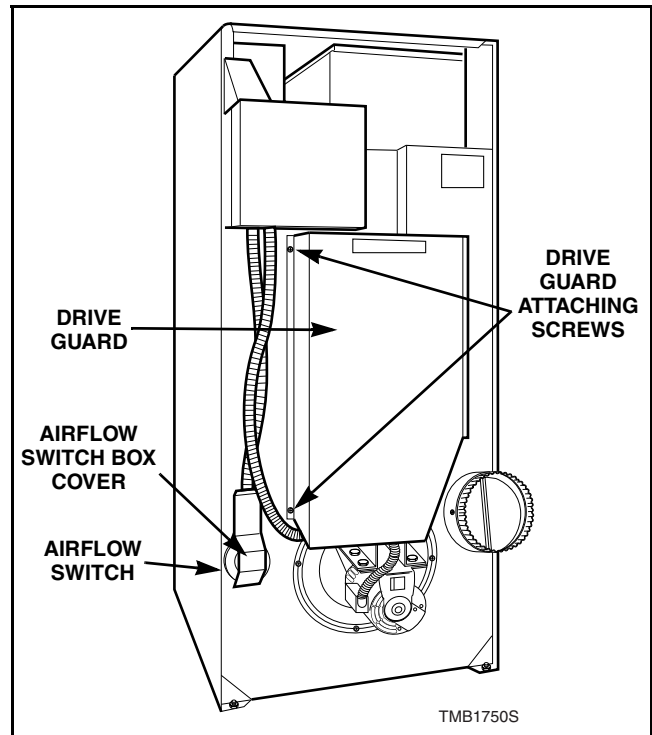

Figure 10
- a. Remove airflow switch box cover. Refer to *Figure 10*.
Refer to *Figure 10*.
- Remove drive guard. Refer to *Figure 10*.
- Reinstall drive guard on tumbler. Refer to *Figure 10*.